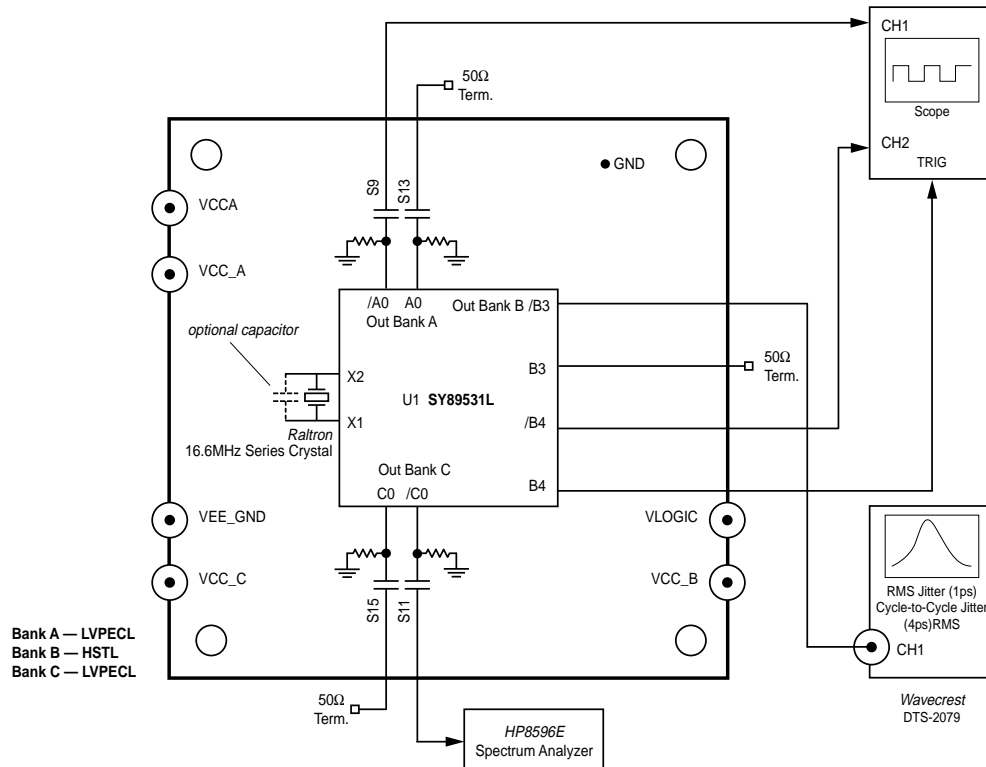

Figure 1. SY89531L Evaluation Board and Test Set-Up
4. Configure test setup as shown in Figures 1 to 4.